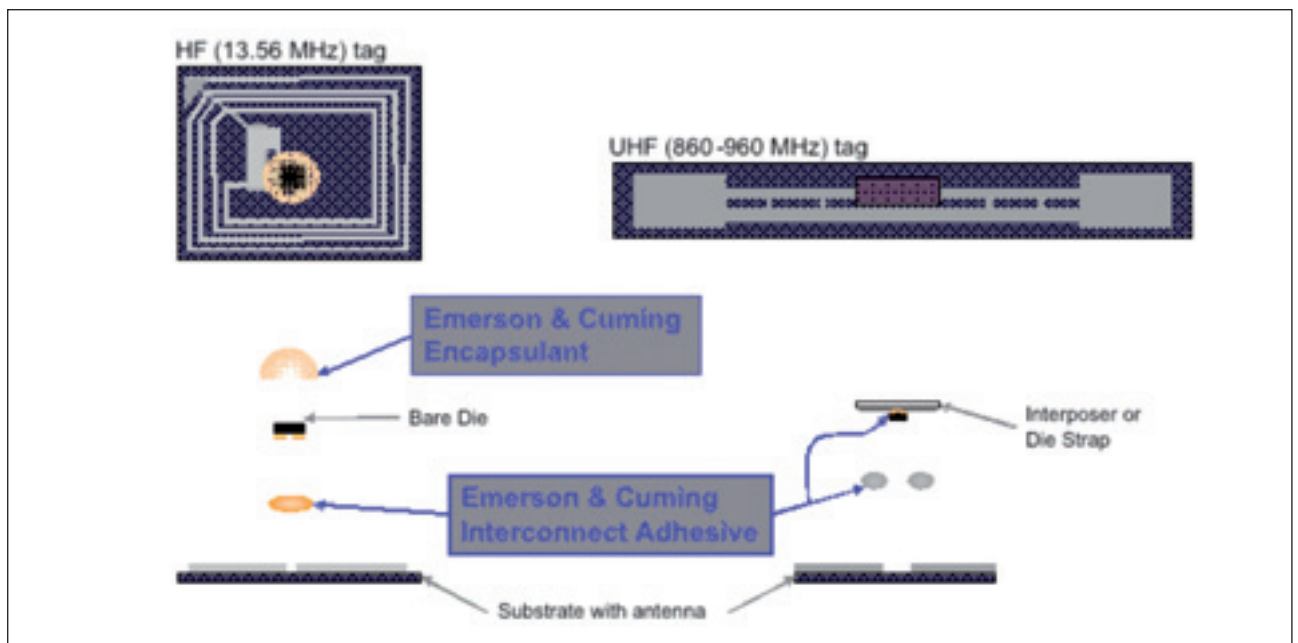

Figure 1: Schematic of a RFID inlay
built in one of two ways: (1) an interconnect adhesive is used to attach a small bare die directly to an antenna, or (2) an interconnect adhesive is first used to build a much larger packaged die (interposer or die strap), which is then adhered onto an antenna (see figure 1). Both methods of assembly have been successfully used to make active and passive RFID tags.